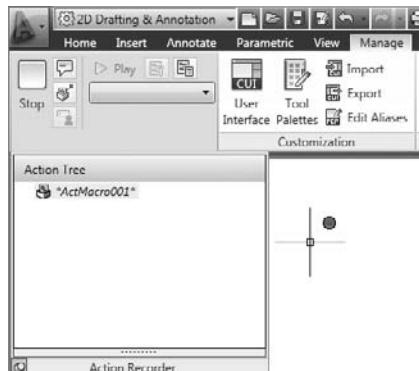

FIGURE 6.50 The Action Recorder panel as it appears when the actions are being recorded
2.  Click the Record button (Manage tab > Action Recorder panel). The Record button changes to a Stop button, and the panel pins itself open, as shown in Figure 6.50. A large red dot appears at the cursor to remind you that the actions are being recorded.